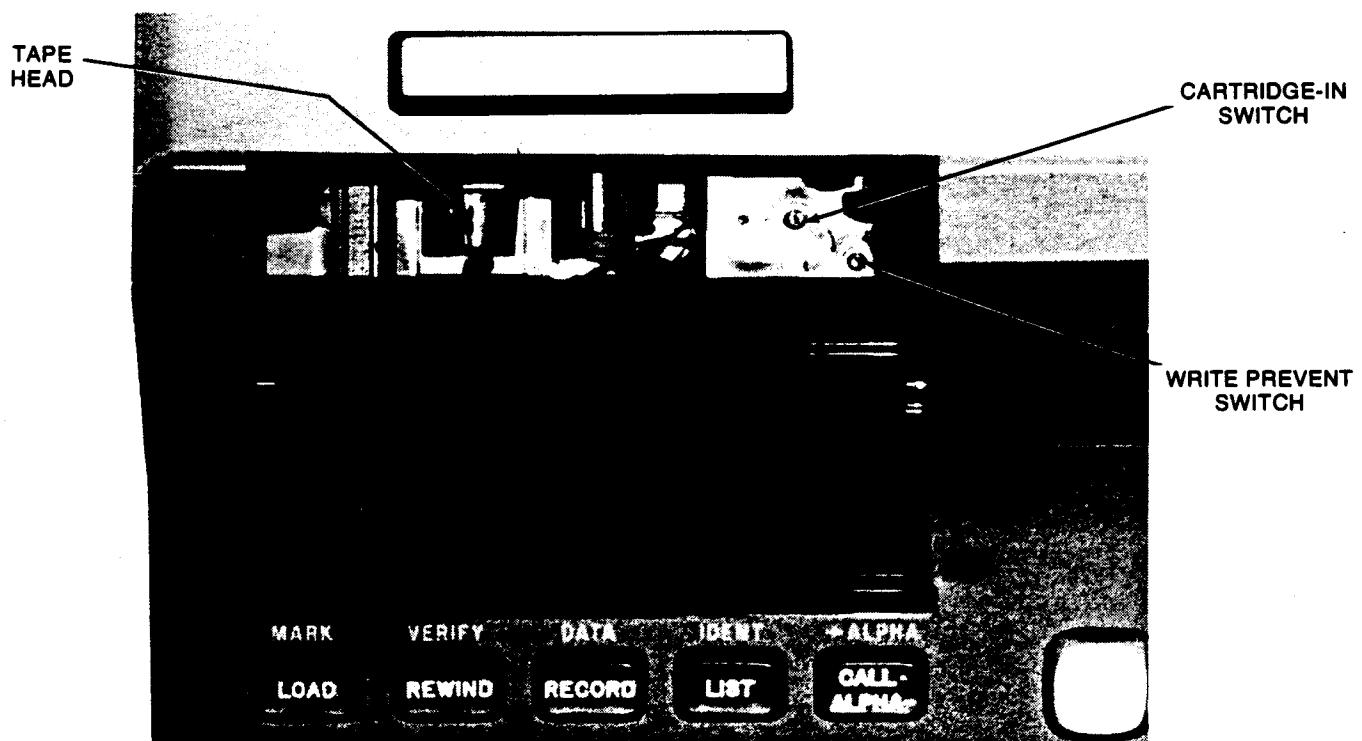

Figure 2-0. Cleaning the Tape Head
2. Clean the tape head with a cotton swab that has been dampened with head cleaning solution (see Figure 2-0). Wipe the top of the tape head a few times with the cotton swab. Remove any other dust that has accumulated in the vicinity of the tape head.